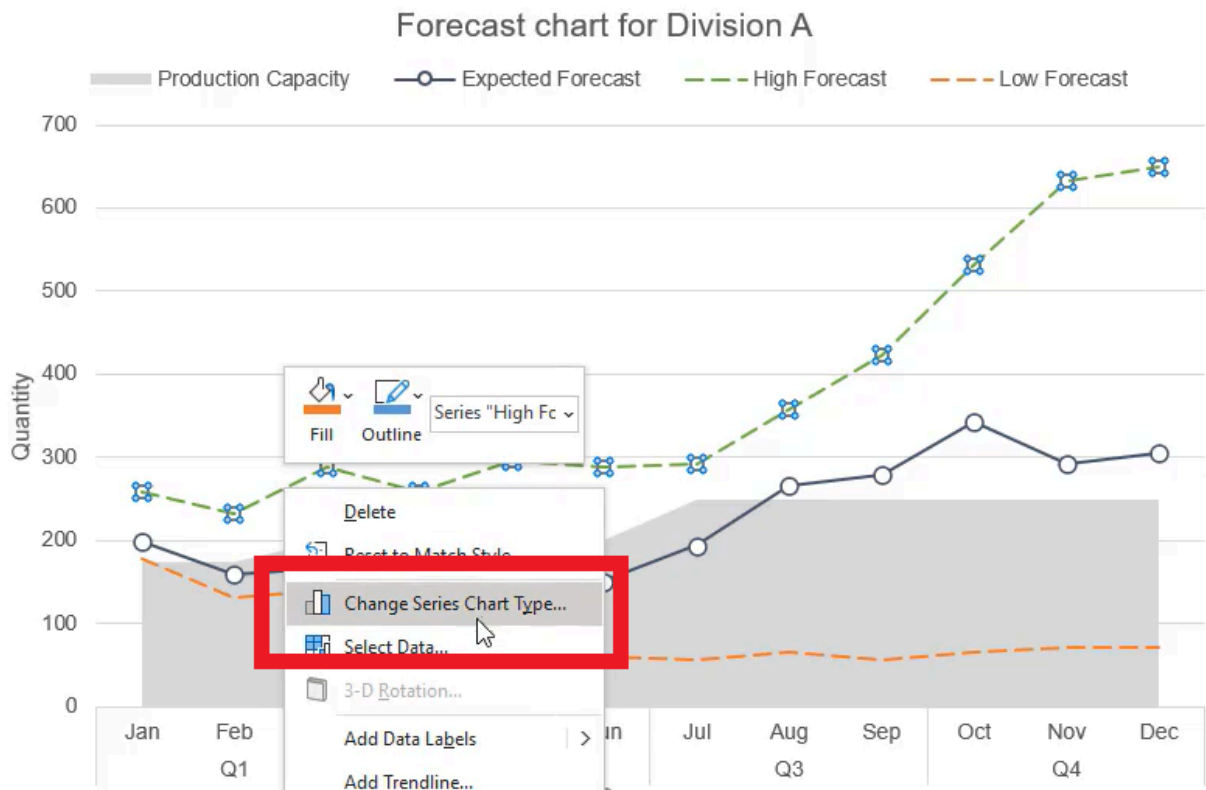

Figure 37.30
3. Select **Change Series Chart Type**. (See **Figure 37.30**)